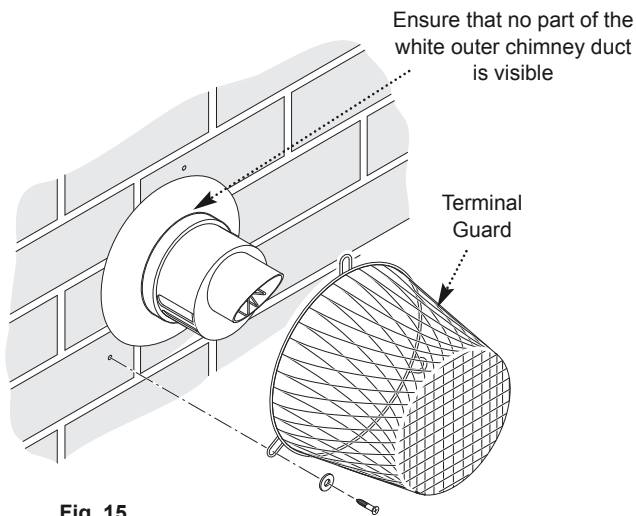

Fig. 15
1. When codes of practice dictate the use of terminal guards (Fig. 15) 'Multifit' accessory part no. 720627901 can be used (**NOTE:** This is not compatible with Flue Deflector referred too below).